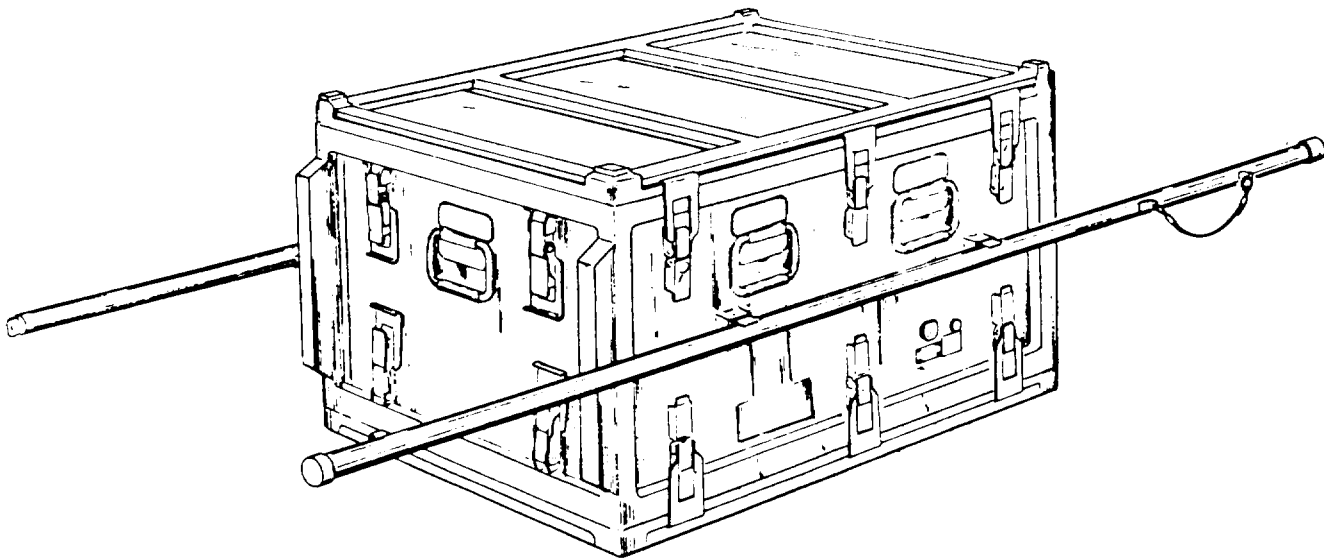

Figure 1-2. AN/TSQ97, Assembled for Transportation
*a. General External Description.* Figure 1-2 shows the facility in the ready for transport condition. The entire equipment is contained in a lea proof metal case with removable front and back covers. The case contains a control-monitor panel, three radios (receiver/transmitter) and attendant items required to provide communications and meteorological data. The facility as